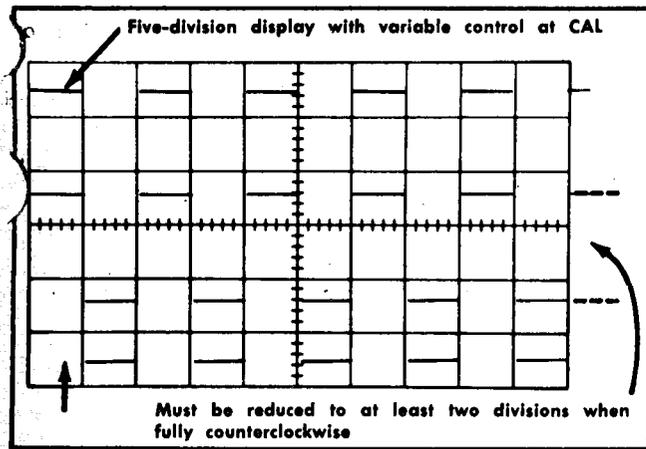

Fig. 6-18. Typical CRT display showing adequate Channel 1 and 2 VARIABLE control range (double exposure).
c. CHECK-Turn the Channel 1 VARIABLE VOLTS/DIV control fully counterclockwise. Display should be reduced to two divisions or less (see Fig. 6-18). Channel 1 UNCAL light must be on when Channel 1 VARIABLE control is not in CAL position.
e. CHECK-Turn the Channel 2 VARIABLE VOLTS/DIV control fully counterclockwise. Display should be reduced to two divisions or less (see Fig. 6-18). Channel 2 UNCAL light must be on when Channel 2 VARIABLE control is not in CAL position.